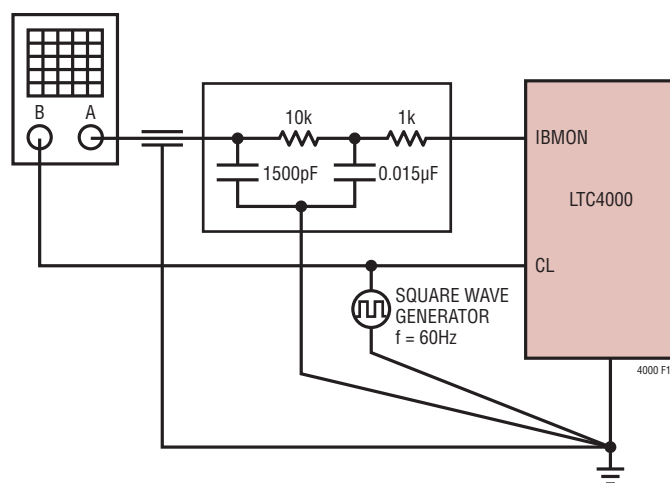

Figure 15. Charge Current Regulation Loop Compensation Setup
- For compensation, the procedure described in the empirical loop compensation section is followed. As recommended, first a $1\mu F$ C_C and 10k R_C is used, which sets all the loops to be stable. For an example of typical transient responses, the charge current regulation loop when V_{OFB} is regulated to $V_{OUT(INST_ON)}$ is used here. Figure 15 shows the recommended setup to inject a DC-coupled charge current variation into this particular loop. The input to the CL pin is a square wave at 70Hz with the low level set at 120mV and the high level set at 130mV, corresponding to a 1.2A and 1.3A charge current (100mA charge current step). Therefore, in this particular example the trickle charge current regulation stability is examined. Note that the nominal trickle charge current in this example is programmed at 1.25A ($R_{CL} = 24.9k\Omega$).